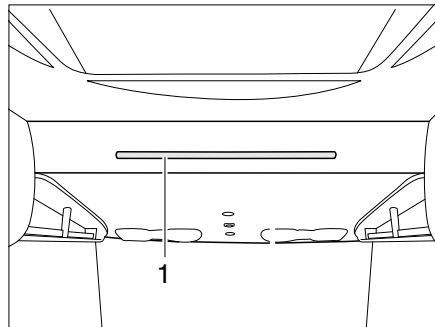

Fig. 159 Manual pull-down bed
- Pull the handle lever (Fig. 159,1) downwards in order to unlock the pull-down bed.
Attaching: ■ Hook the access ladder to the pull-down bed by attaching both brackets into the bar (Fig. 159,1).